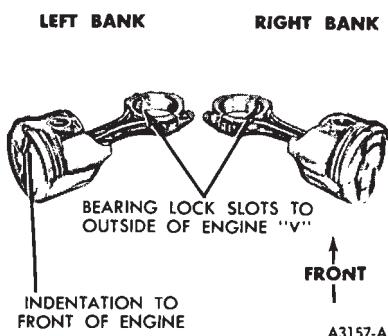

FIG. 41—Correct Piston and Connecting Rod Position
1. Lubricate all parts with light engine oil. Position the connecting rod in the piston and push the pin into place. Assemble the piston and connecting rod as shown in Fig. 41.